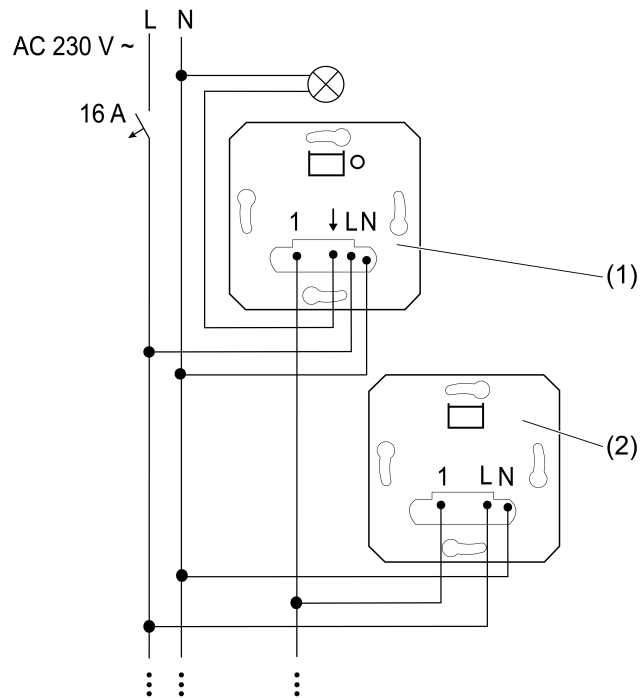
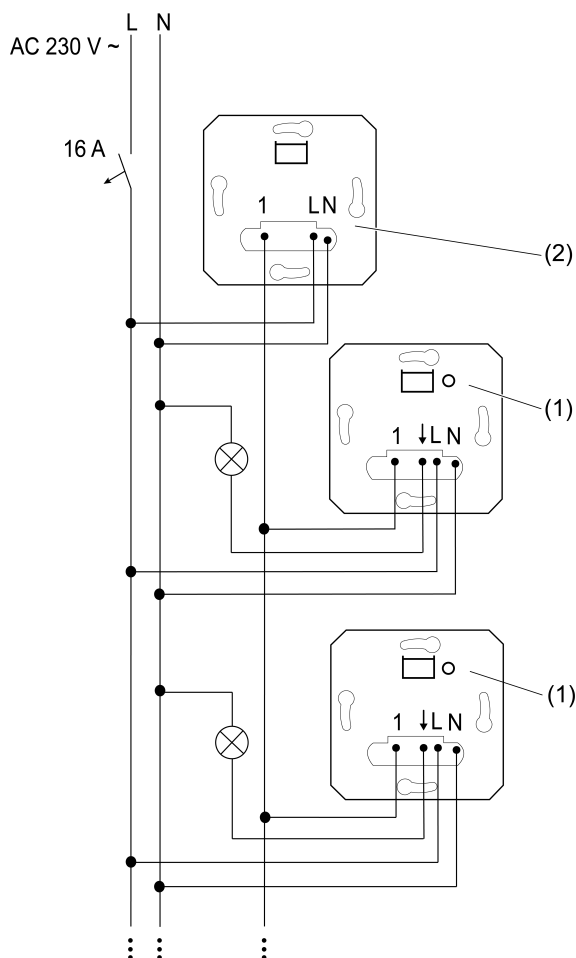
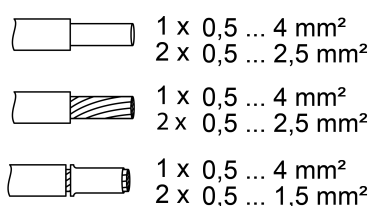

Figure 1: Connection diagram 3-wire extensions on a main device
Figure 2: Connection diagram for multiple main devices to a 3-wire extension for the central control
Figure 3: Clampable cable cross-sections
i Up to five 3-wire extensions (2) can be connected to a main device (1) (Figure 1).
- i** Up to five identical or different main devices (1) can be controlled together by a 3-wire extension (2) (Figure 2).
- Connect extension (2) according to connection diagram (Figure 1) and (Figure 2). Note clampable cable cross-sections (Figure 3).